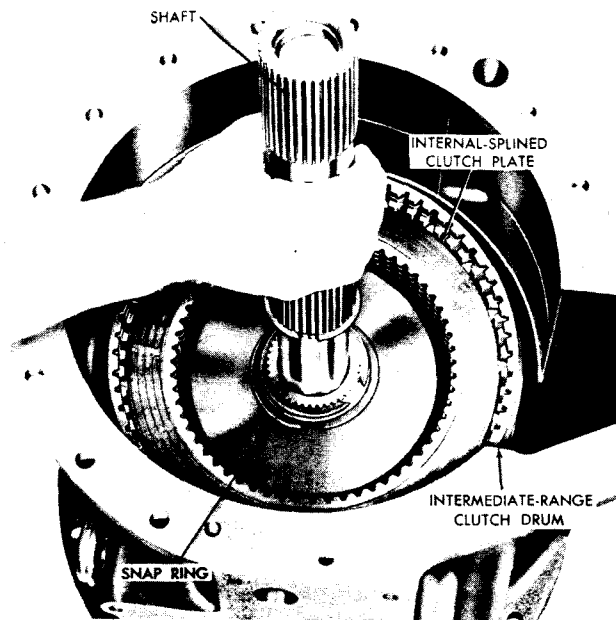

Fig. VII-14. Installing (or removing) transmission main-shaft assembly ^{S2506}
(1) Position the transmission housing, front downward, and install the intermediate-range clutch drum (fig. VII-14).
(2) Install the snap ring which retains the intermediate-range clutch drum to the hub of the forward planetary carrier (fig. VII-14).
(3) Install four internal-splined and three external-splined intermediate-range clutch plates. Begin with an internal-splined plate and alternate the plates (fig. VII-14).
(4) Install the transmission main shaft (fig. VII-14).